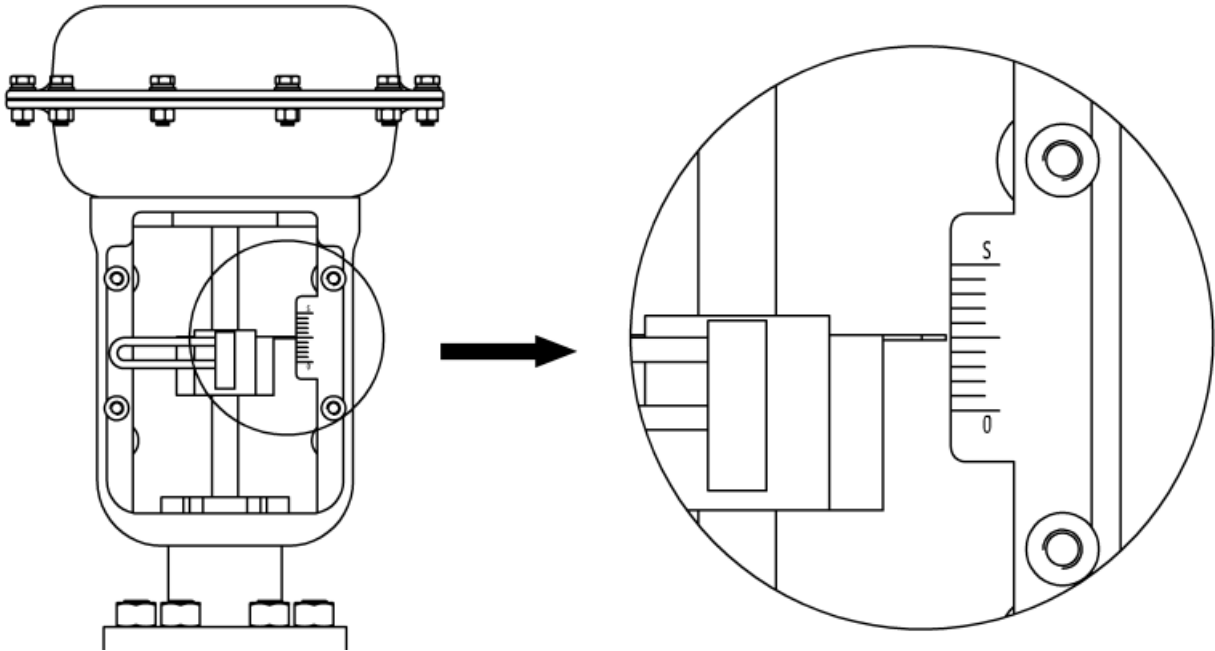

Figure 19. Valve mid-stroke point
- Input air to the valve cylinder, adjust the valve position to the mid-stroke point according to the stroke ruler on the valve, as shown in Figure 19.